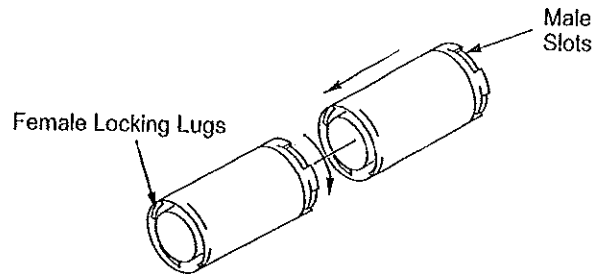

Figure 8 - Vent Pipe Connections
Twist-Lock Procedure: The female ends of the pipes have locking lugs (indentations). These lugs will slide straight into matching slots on the male ends of adjacent pipes. Push pipe sections together and twist one section clockwise approximately one-quarter turn until the sections are fully locked (see Figure 8). *Note:* Horizontal runs of vent must be supported every three feet. Use wall straps for this purpose.
2. Assemble the desired lengths of pipe and elbows necessary to reach from the fireplace flue up through the firestop. Be sure all pipe and elbow connections are fully twist-locked (see Figure 8, page 8).